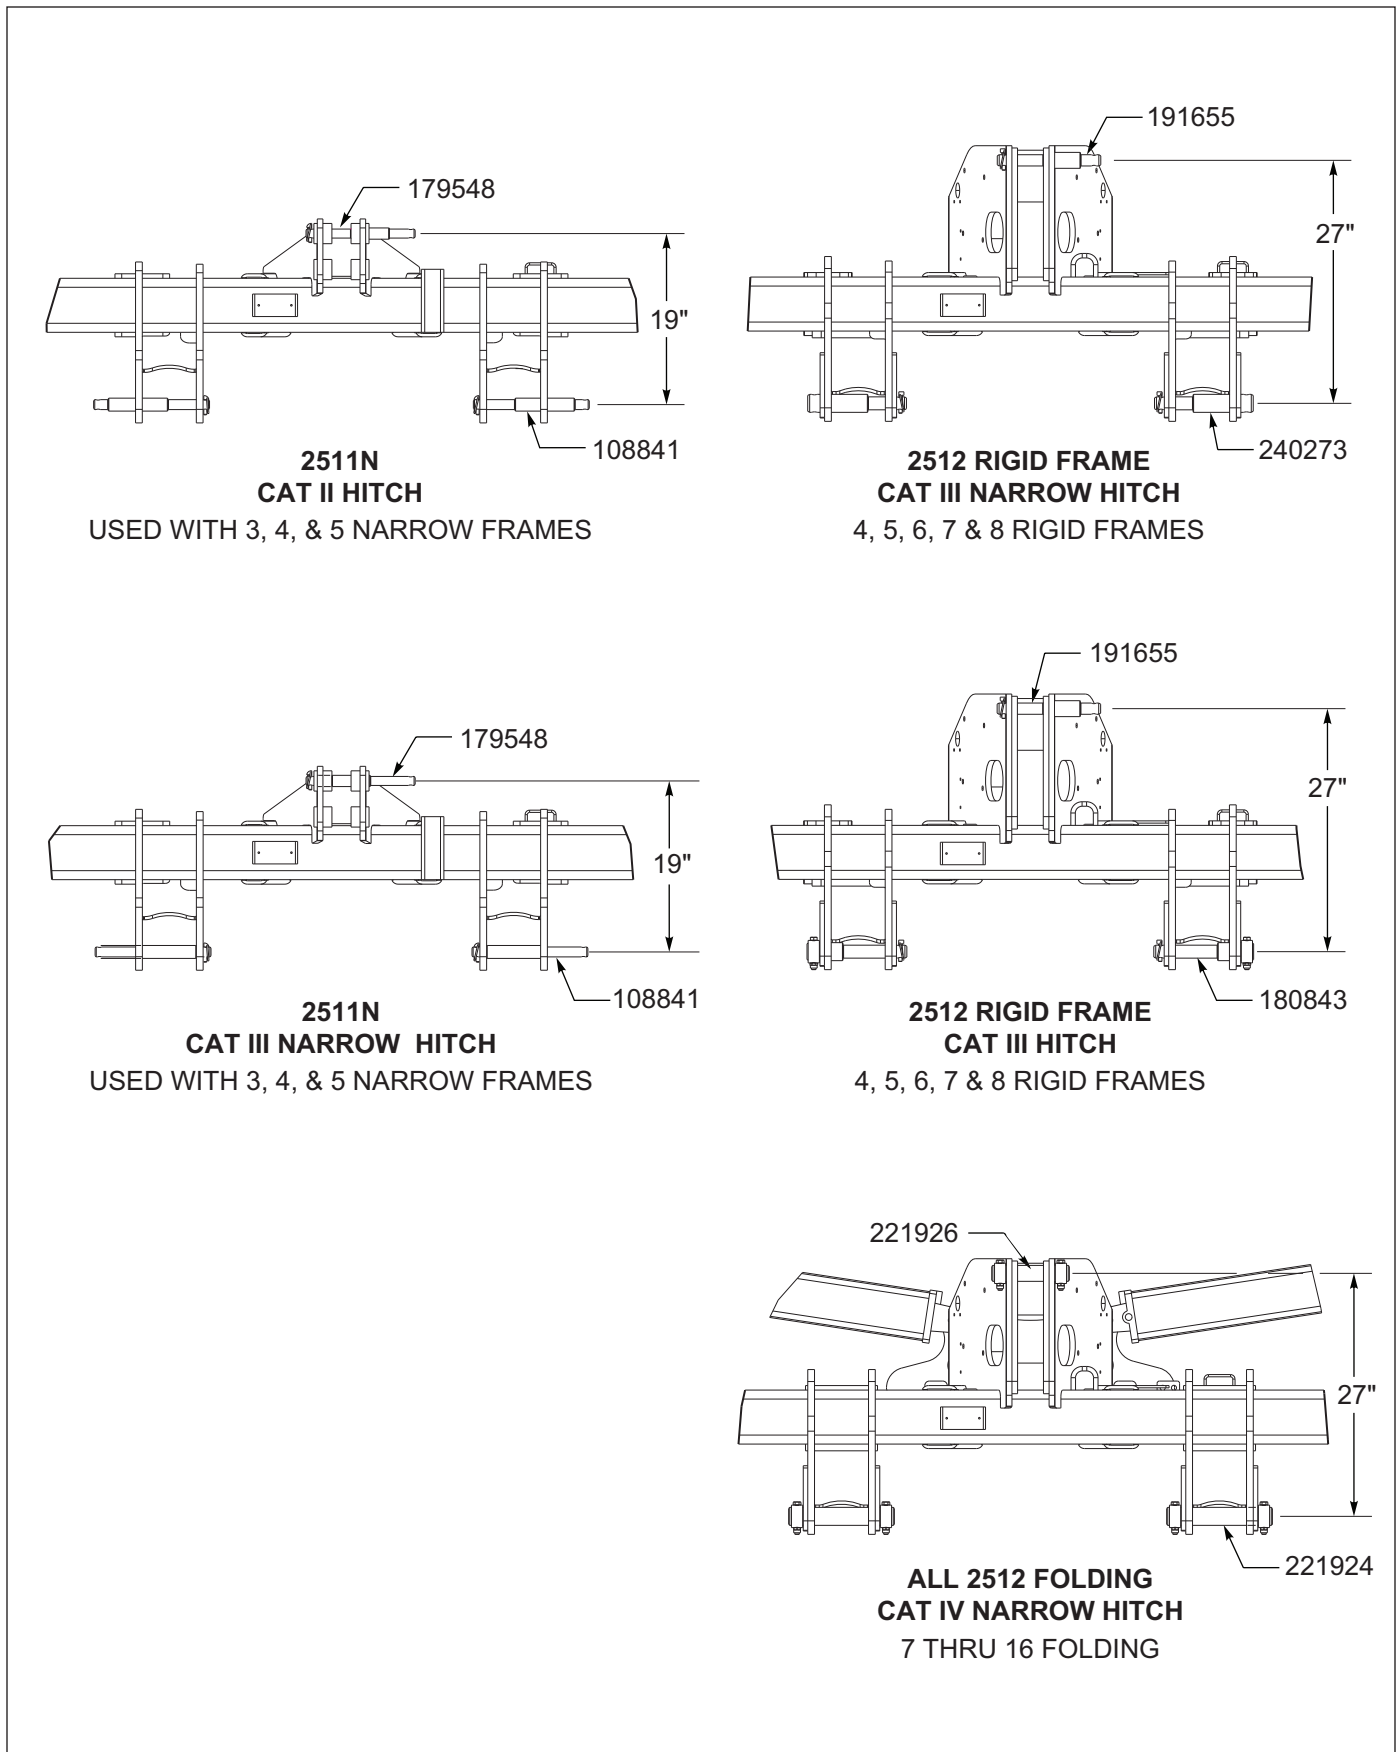

Figure 4-2: 3-PT Hitch Setup
- a. Attach Lower Lift Arms of the tractor to the Zone Commander utilizing appropriate Pins. 2512 Rigid Model come with either Category IIIN, CAT III, and CAT IVN. 2512 Folding Models come with CAT IVN ONLY. **See Figure 4-2.**
Escaping hydraulic fluid can cause serious personal injury. Relieve system pressure before repairing, adjusting, or disconnecting. Wear proper hand and eye protection when searching for leaks. Use cardboard instead of hands. (See Figure 4-2.) Keep all components (cylinders, hoses, fittings etc.) in good repair.